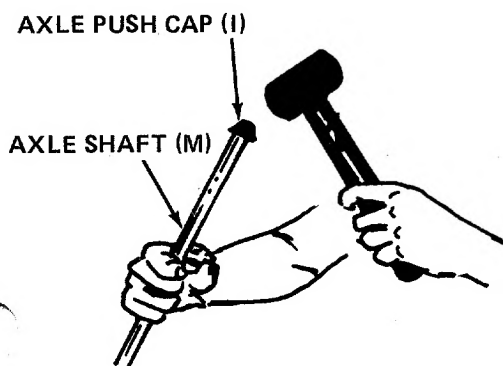

FIGURE 3
- L (2) Wheels
- M (1) Axle Shaft
- N (1) Engagement Rod
- O (1) Engagement Handle
2. Using a raw hide or plastic hammer, tap one axle push cap (I) on one end of axle shaft (M). See figure 3.